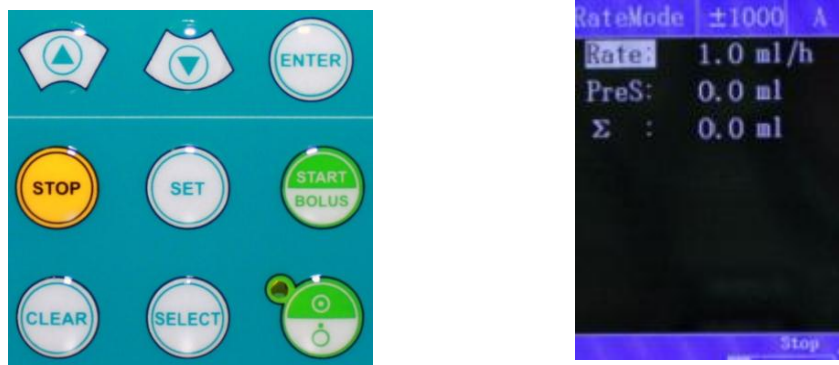

Fig 9
- 2) Press the **SET** key to select an infusion mode (the default mode is rate mode), and then press the **↑** key or the **↓** key to select the parameter to be set as shown in Fig 9. Press the **ENTER** key to make the parameter value adjustable (when it turns yellow, it means it's adjustable), and then press the **↑** key or the **↓** key to adjust the value. After that, press the **ENTER** key to save the value.